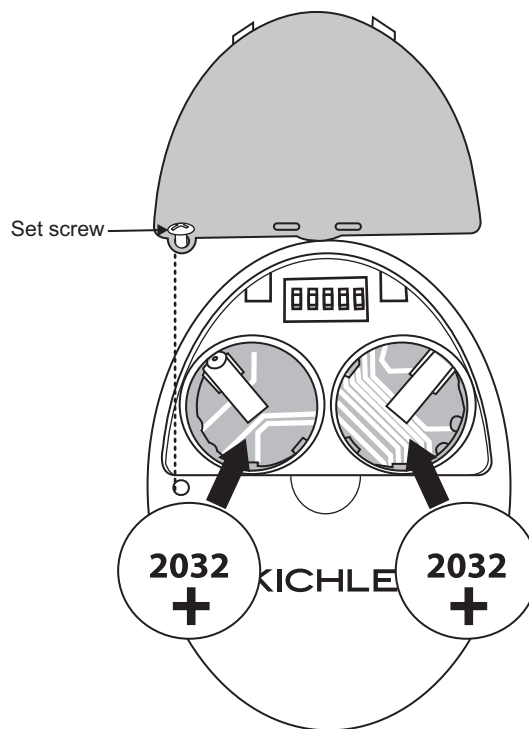

Fig. 11
Open the back of the Transmitter. You need to use a screwdriver to open or close the battery cover (figure 11)
2. Insert both batteries and make sure they are seated correctly in each recess with the Positive + sign facing up. Replace the battery cover. (Figure 11)